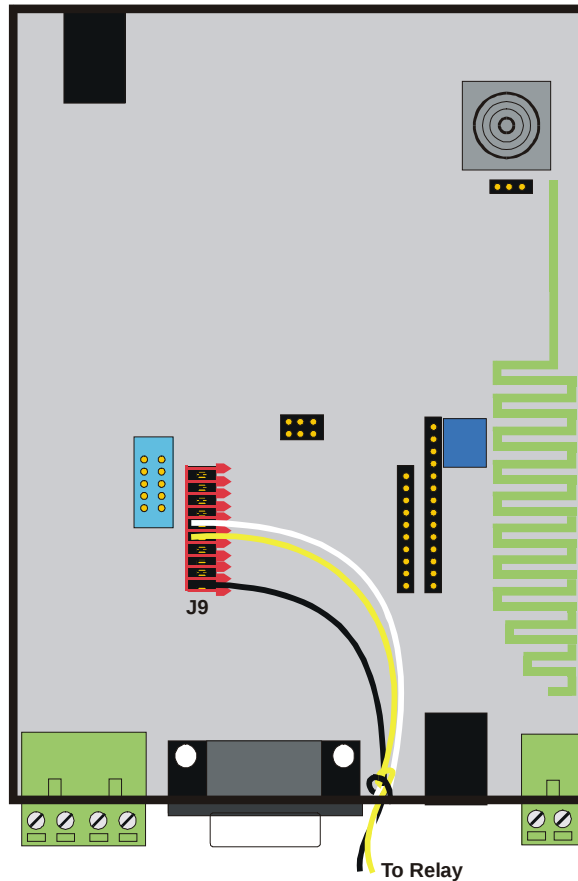

Figure 20 Plugging in the relay wires
Step 4: Place the terminal block on the J9 header (Figure 20) Run the wires out the provided hole in the Receiver case. The wires have a knot tied to provide strain relief.